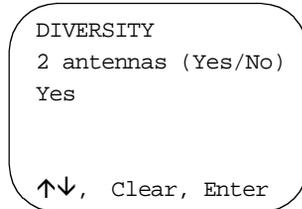

Figure E-7. Diversity Screen
6. Select **Diversity** from the main configuration menu. The *Diversity* screen (Figure E-7) is displayed.